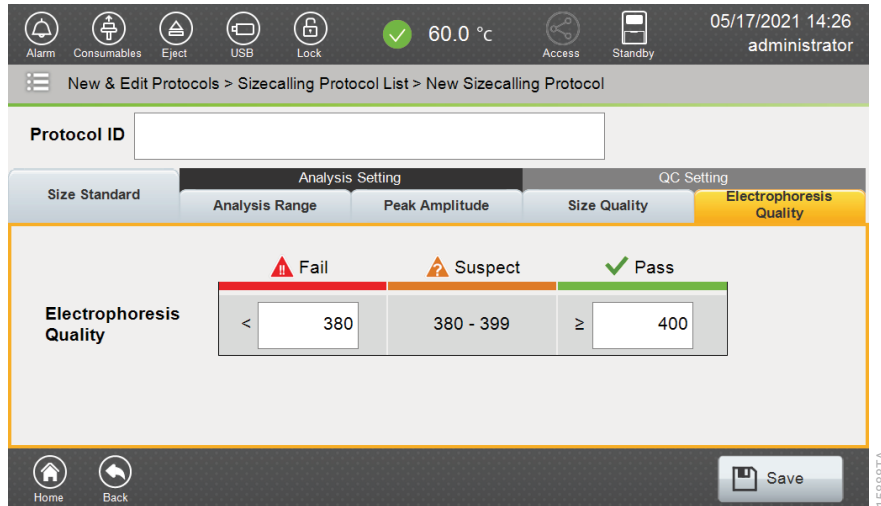

Figure 134. 'Electrophoresis Quality' tab.
Electrophoresis Quality	<p>Defines the EQ values (in bp) for passing and failing data. Sizing data that fall between these values will be flagged as 'Suspect' (data should be manually reviewed in 'Result' tab to determine whether or not it is acceptable to the user or requires reinjection).</p> <p>See 'Result' Tab in Section 5.7 for definition of EQ.</p> <p>Note: Default values are supplied when creating a new sizecalling protocol but may be edited by the user. The EQ range allowed by the software is 1 to 1,000. The numerical value for Fail must always be lower than the numerical value entered for Pass (Figure 134).</p>
10. Select the 'Electrophoresis Quality' tab to reveal the default settings for minimum passing and maximum failing EQ values (Figure 134). These parameters can be changed when creating a new sizecalling protocol.